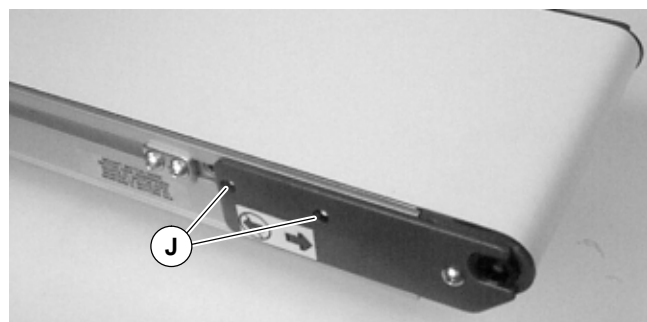

Figure 5
- 3a. Locate drive mounting position and remove two (2) screws (J of Figure 5).